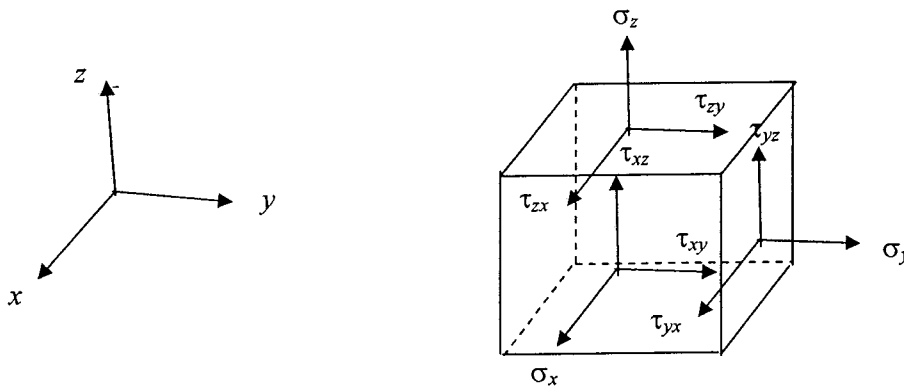

Figure 1
1. (a) Figure 1 shows an infinitesimal volume in a three dimensional body under stressed condition. Derive the constitutive equation  $\epsilon = D\sigma$  for the case of a homogeneous isotropic body with modulus of elasticity  $E$  and Poisson's ratio  $\nu$  where :
- (b) The set of equilibrium equations and strain-displacement equations for an infinitesimal volume in a three dimensional body as shown in Figure 1 are given as follows :